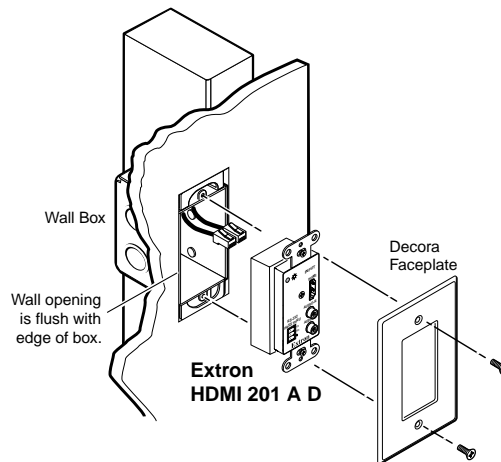

Figure 12. Mounting the Transmitter or Receiver
2. Mount the transmitter or receiver into the wall box, and attach the supplied Decora faceplate to the unit, as shown in figure 12.